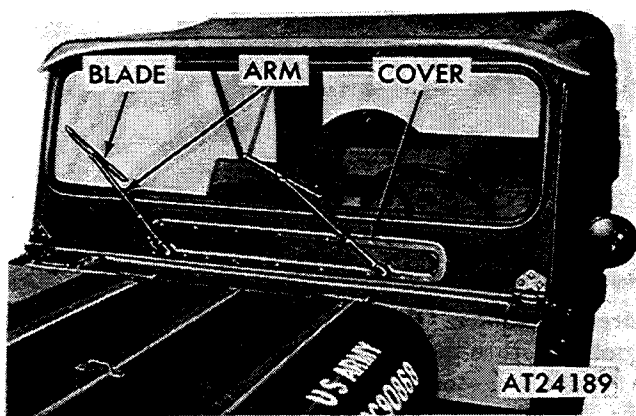

Figure 2-382. Windshield assembly on M151A2, M825, and M718A1 vehicles.
**d. Windshield, Windshield Wipers and Washer (M151A2, M825, and M718A1 vehicles).** The hinged one-piece glass windshield assembly (fig. 2-382) can be folded forward horizontal to the hood. The electrical motor and switch assembly (fig. 2-250) for the windshield wipers is mounted to the lower part of the windshield assembly just in front of the driver's seat. The switch (control knob) has
*a. Removal.* Lift wiper arm away from windshield so blade is completely off windshield (fig. 2-382). Grasp inner end of blade and remove nut and screw securing blade to windshield wiper arm. Remove wiper blade.
(1) Remove both wiper arm and blade assemblies (fig. 2-382).
(2) Remove 18 screws securing cover and gasket assembly (fig. 2-382).